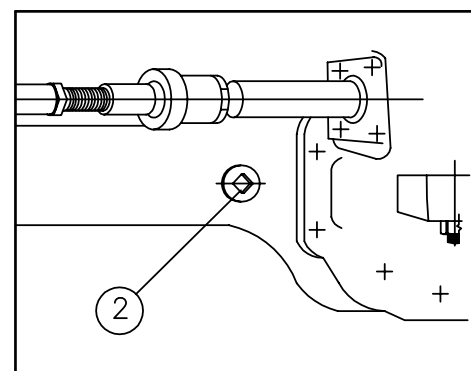

Fig.5.20
Top up if necessary with oil of the specified type through the plug (2) (Fig. 5.20).